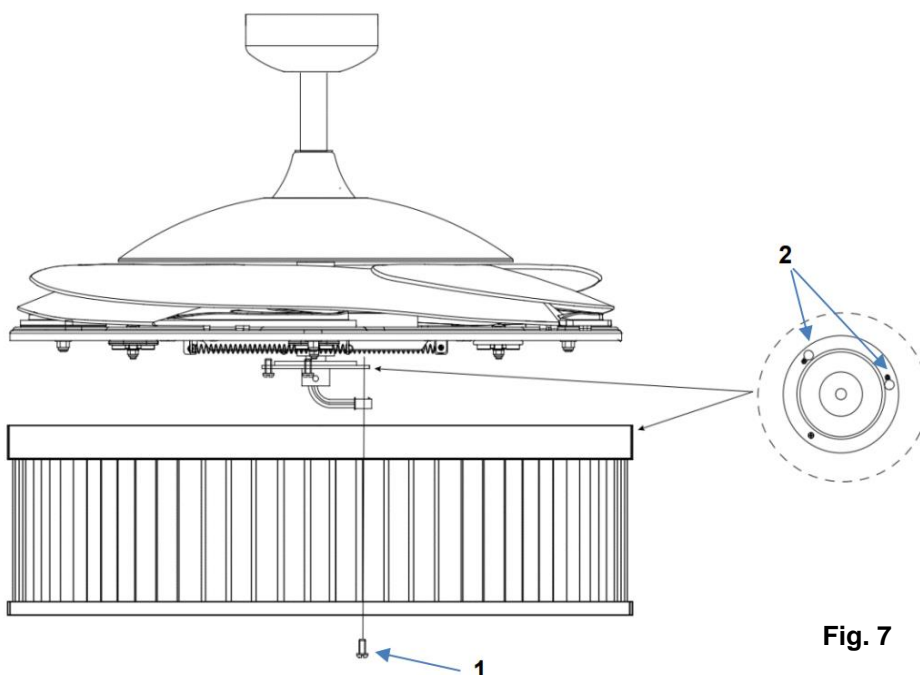

Fig. 7
LIGHT KIT INSTALLATION (Fig.7 & 8)
1. Loosen the screw (1) from the fan bracket. Align the two slot screws with the keyhole slots (2) of the lamp shade bracket. (Fig. 7)
2. Turn the lamp shade counterclockwise until the slot screws are firmly at the end of the slots (2).
3. Secure screw (1) to the lamp shade bracket. Tighten all three screws. Do not over-tighten.